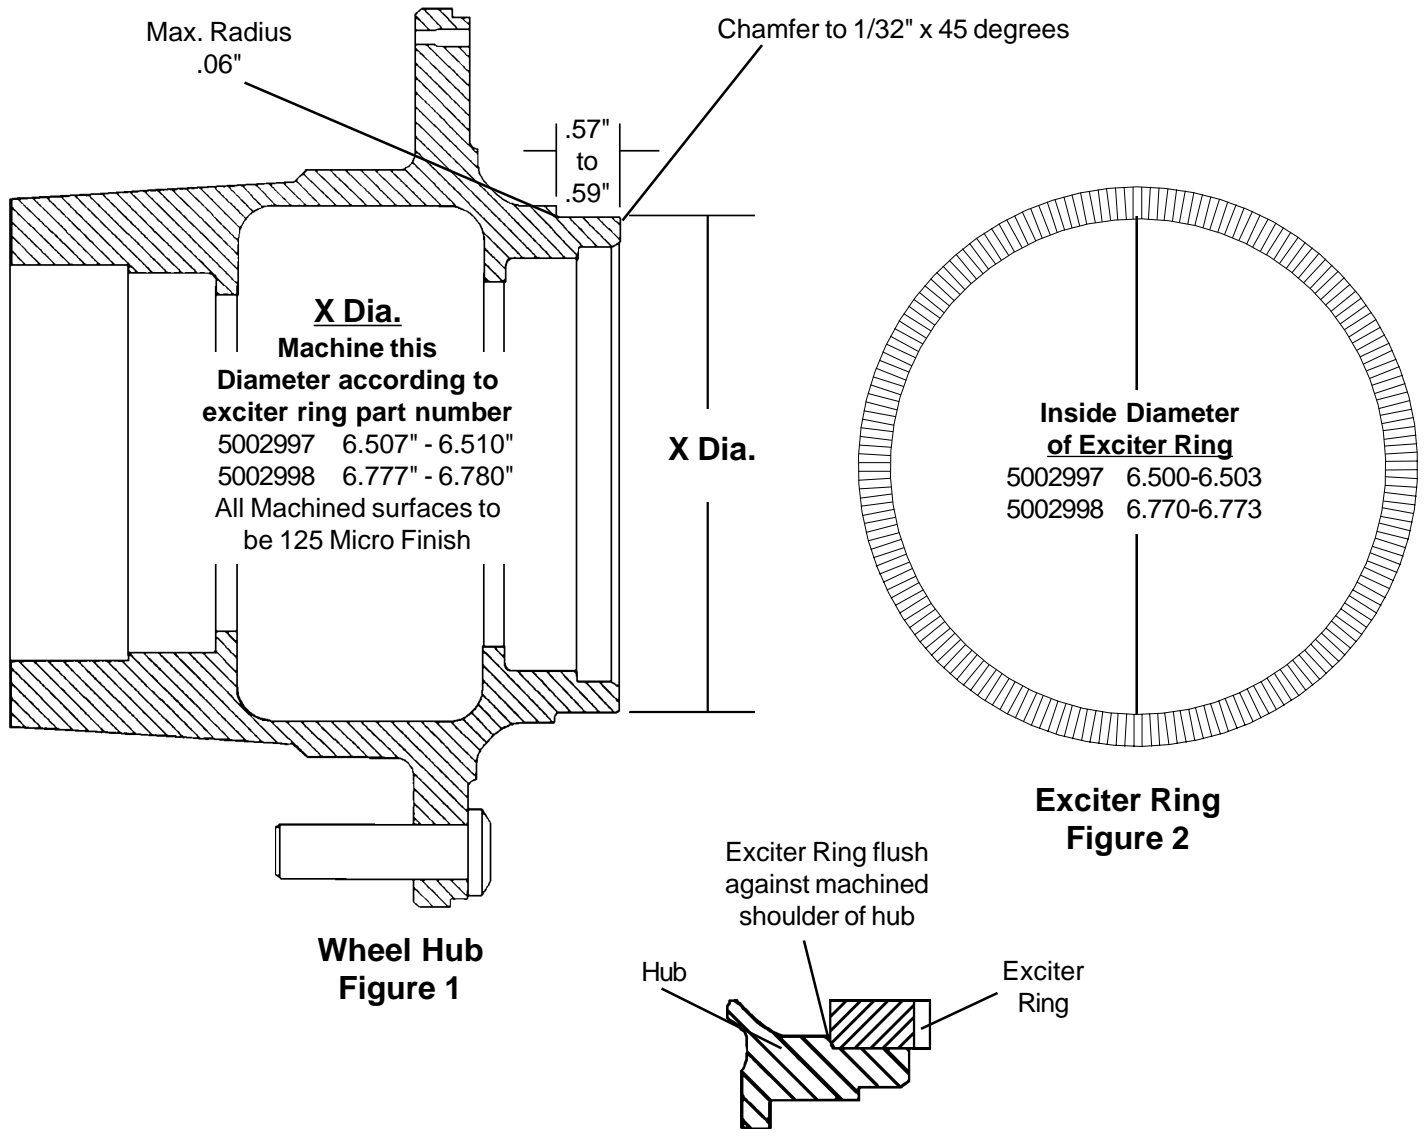

Figure 3
- Uniformly heat the exciter ring to approximately 350° F. Install the ring on the machined diameter of hub making certain it fits squarely on the machined hub diameter and the backside of the ring (side opposite the teeth) is flush with the machined shoulder. See Figure 3.